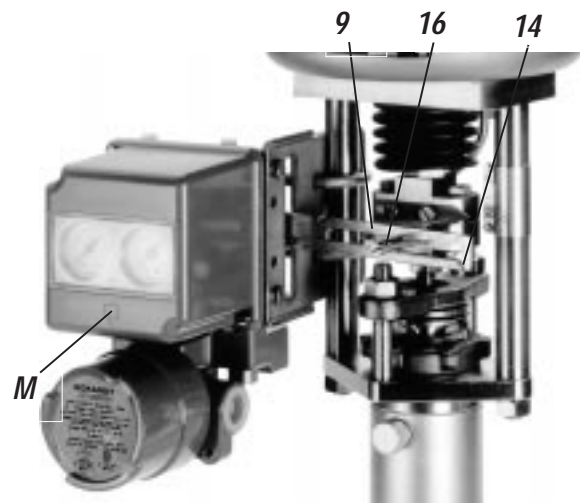

Fig. 12: Actuator with pillars (mounting side left)
- Screw the carrier bolt **16** into actuator coupling (see Fig. 12).
(see Mark '**M**' in Fig. 12).